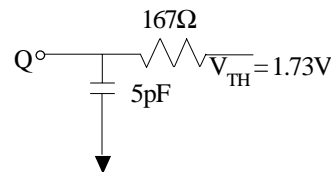

Fig. 2 Output Load Equivalent
- tLZCE, tLZWE, tLZOE, tHZCE, tHZOE and tHZWE are specified with CL = 5pF as in Fig. 2. Transition is measured ±200mV typical from steady state voltage, allowing for actual tester RC time constant.